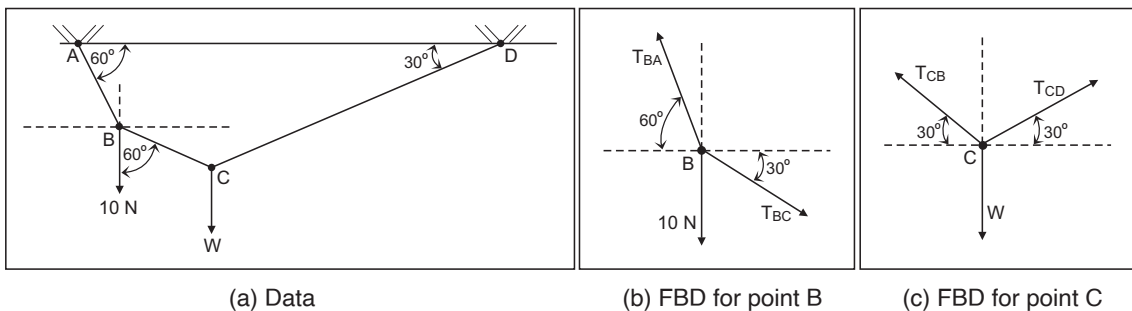

Fig. 2.7
**Example 2.** Find the value of  $W$  if a light weight chain ABCD is suspended as shown in below fig. 2.7(a).